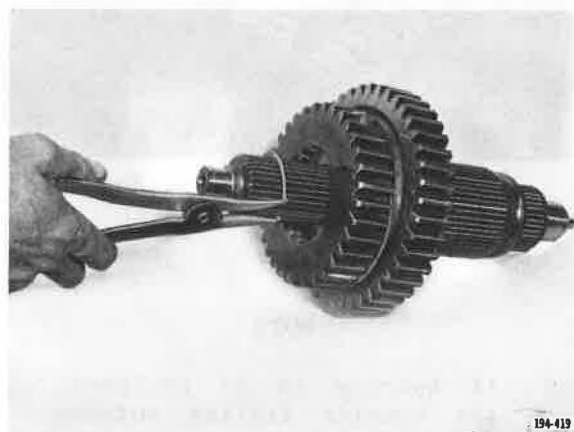

Figure 351. Installing Snap Ring
10. Install fourth speed gear retaining snap ring, using snap ring pliers J-29045, or equivalent. See Figure 351.